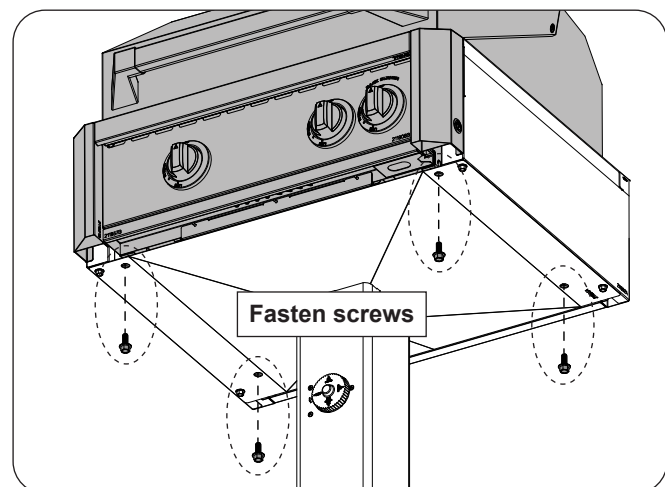

Fig. 15-3 Secure appliance to post base
2. Use the four 3/8" hex screws included with the grill installation hardware to fasten the appliance's front and rear legs from underneath the grill cavity housing and secure the grill to the post base. See Fig. 15-3. Tighten securely.